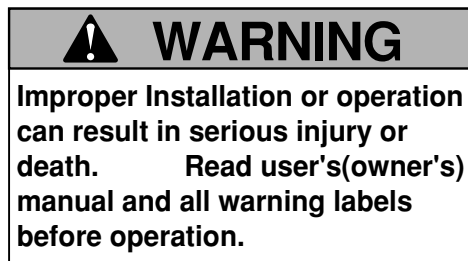

Fig. 1-3 Warning label 3
- (3) Follow the instructions on listed on warning labels and in this manual.
- The warning labels 3 (Fig. 1-3) are supplied with the robot and should be affixed to the robot or conspicuous spots near the robot.